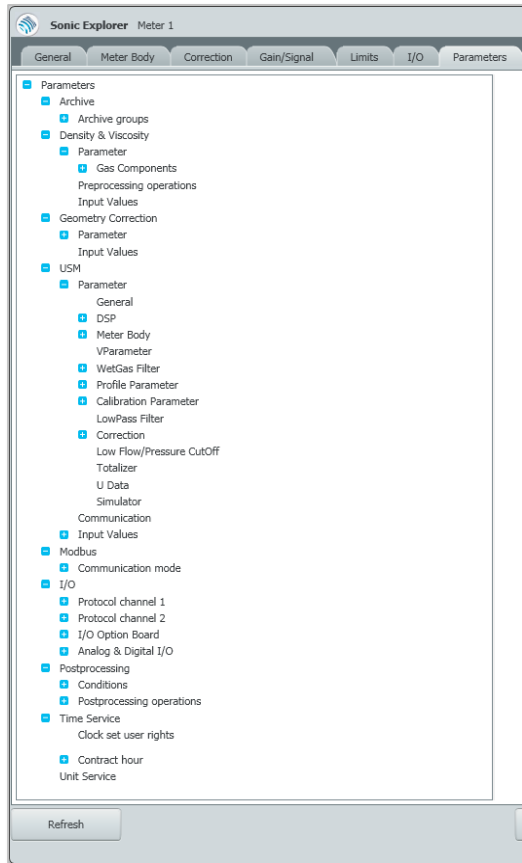

Figure 20-9: Parameters Tab
- ▶ Navigate using the blue plus **+** or minus **-** boxes to open more or less configuration options. See Figure 20-9.